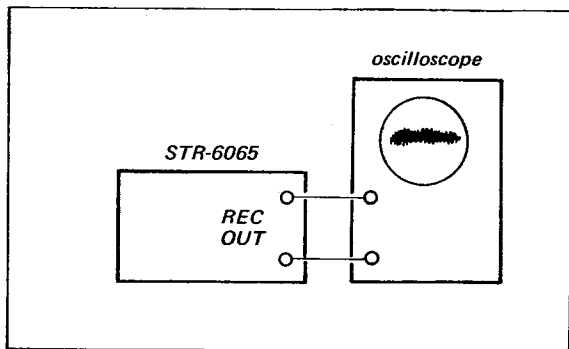

Fig. 3-5. Discriminator alignment test setup
1. With the equipment connected as shown in Fig. 3-5, set the receiver's control as follows: